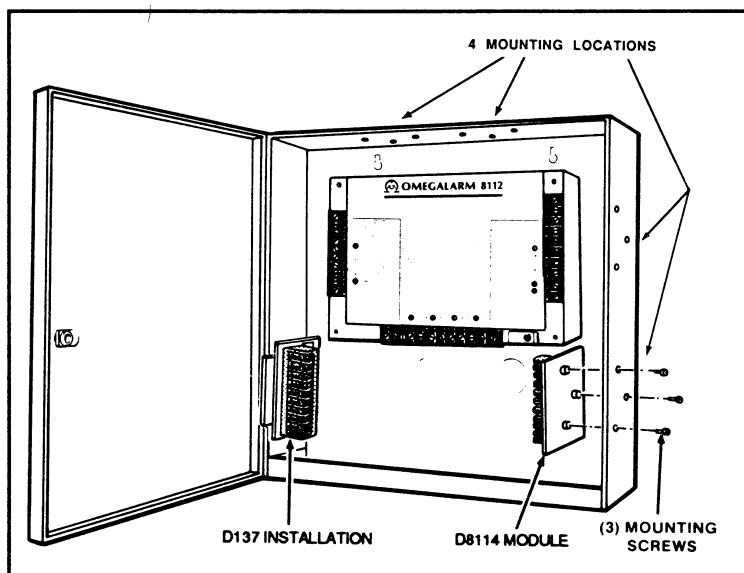

Figure 2: Mounting Locations
2. Align the module with the appropriate holes in the control/communicator enclosure and secure in place with the three screws provided (see Figure 2).
2. Mount the assembly in the lower left corner of the D8112 enclosure (see Figure 2).